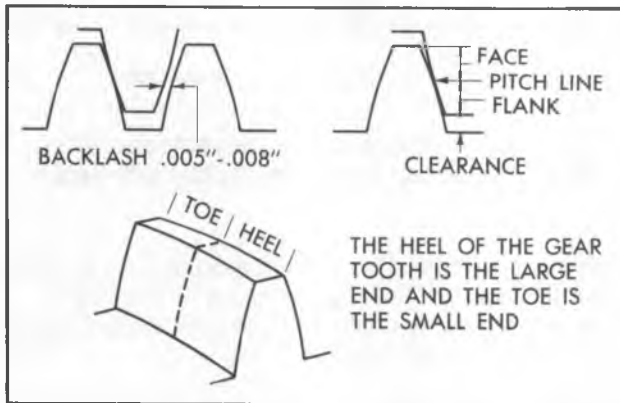

Fig. 17G--Gear Tooth Nomenclature
2. Examine the pattern on the ring gear teeth. If the pinion depth is correct, the tooth pattern will be centered on the pitch line Fig. 17G and toward the toe of the ring gear (fig. 18G).